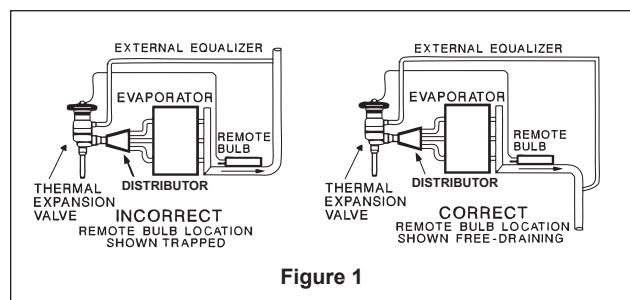

Figure 1
5. Attach the remote bulb to the suction line as close to the evaporator as possible. Position the bulb at the 4 or 8 o'clock position. See figures 1 & 3. Clean the surface of the suction line where the remote bulb is to be attached, then securely fasten the bulb. If the remote bulb can be affected by the surrounding ambient, then the bulb should be insulated with a material that will not absorb water.
6. Connect one end of the external equalizer line to the valve. Connect the other end to the suction line, slightly downstream from the remote bulb location, and positioned so that it cannot siphon oil from the suction line. See figure 1.
Do not under any circumstances locate either type of remote bulb in a location where the suction line is trapped. (See Figure 1.) If the liquid refrigerant collects at the point of the remote bulb location, the thermal expansion valve operation will be erratic and possibly the valve thought to be defective. Large fluctuations in superheat in the suction gas are usually the result of trapped liquid at the remote bulb location. Even on properly designed suction lines, it is sometimes necessary to move the remote bulb a few inches either way from the original location to obtain best valve action. **Always locate the remote bulb on the evaporator side of the heat exchanger.**